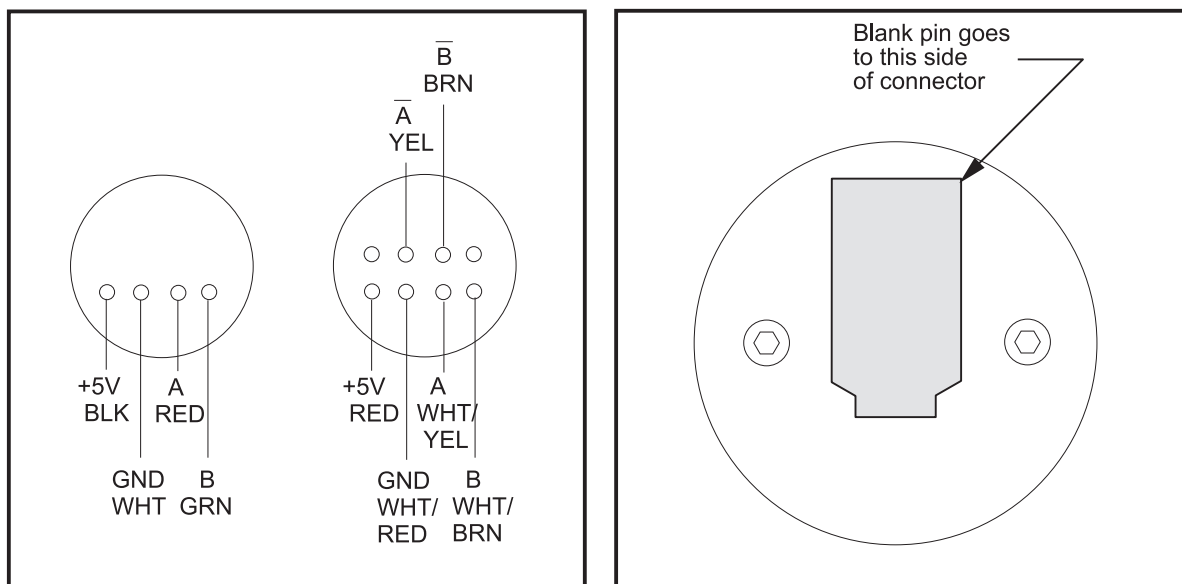

Figure 4-12. Jog handle encoder.
3. Unplug the cable leading to the jog handle encoder. **IMPORTANT!** The blank pin side of the connector must face as shown in Fig. 4-12 when reconnecting; otherwise, damage may occur to the machine.